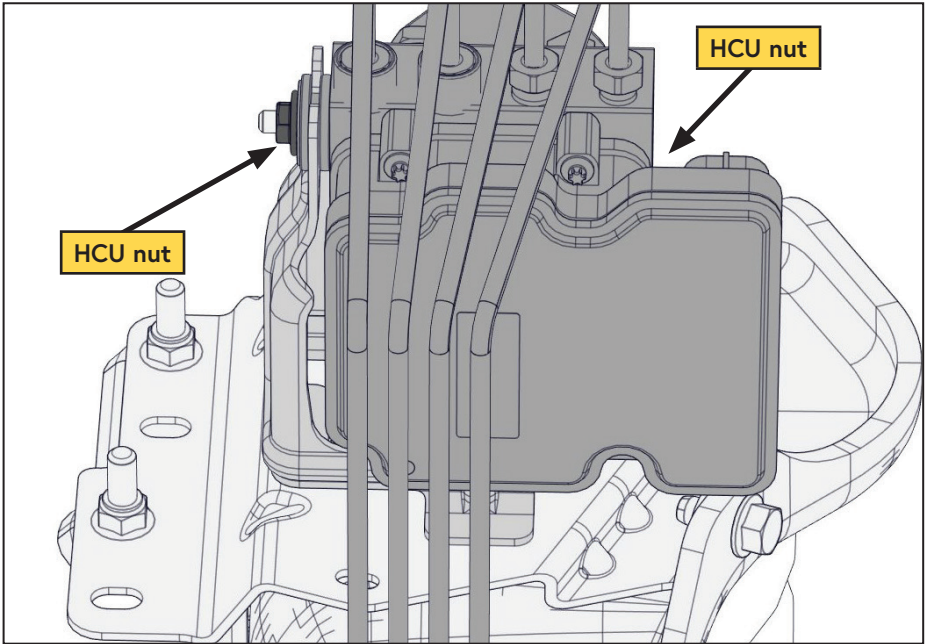
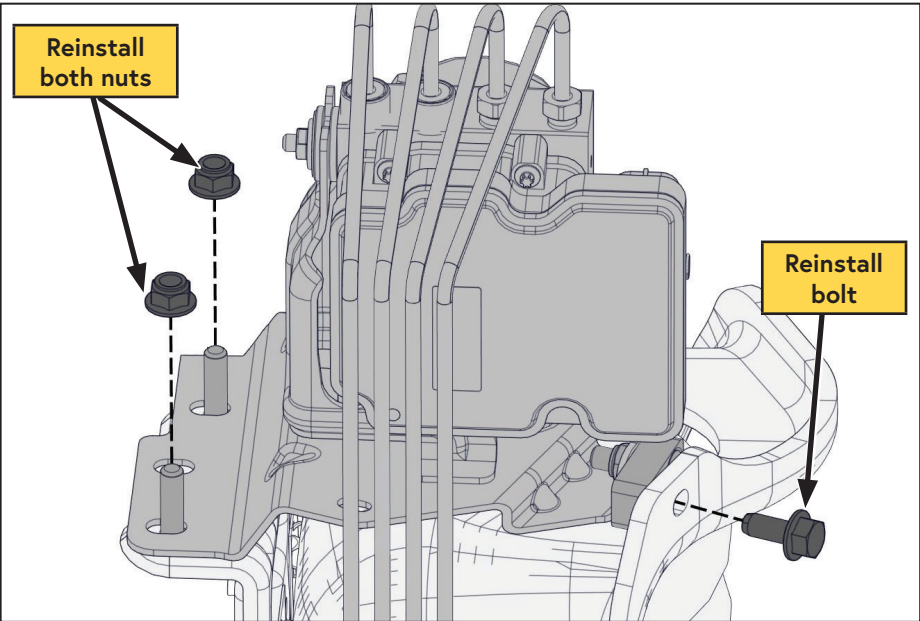

Figure 14 — Relocating the HCU
Figure 19 — Relocating the HCU
Depending on the application, the following steps may not be necessary. If the HCU is mounted towards the firewall (Figure 19 on page 18), proceed to the next chapter. If the HCU bracket is mounted using the holes shown in Figure 14, follow the steps in this chapter.
- ☐ Remove the (x2) nuts securing the HCU module to the bracket (Figure 14).
- ☐ Using the OEM fasteners retained earlier, secure the HCU base bracket to the shock tower (Figure 19).